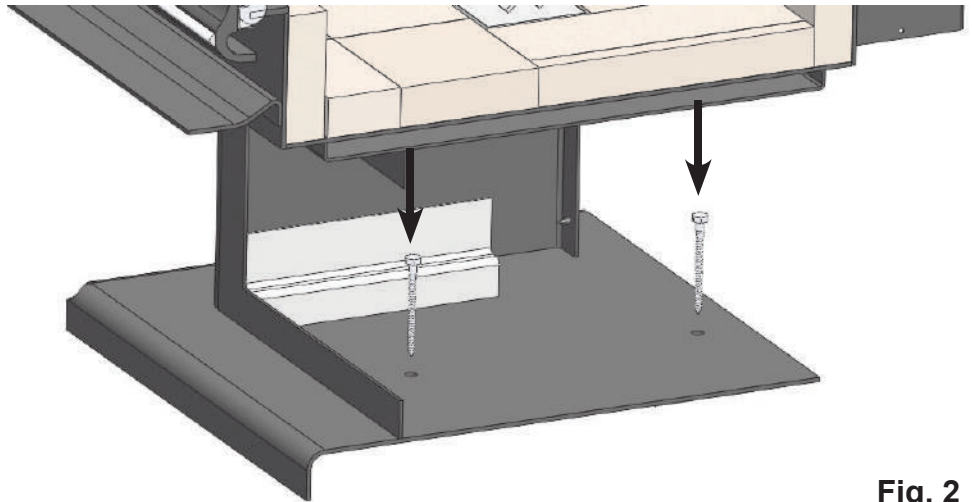

Fig. 2
- For Pedestal Kit (S.Z3903), use #10 screws and washers through the two holes in the pedestal base to secure the stove to the floor. **(Fig. 2)**